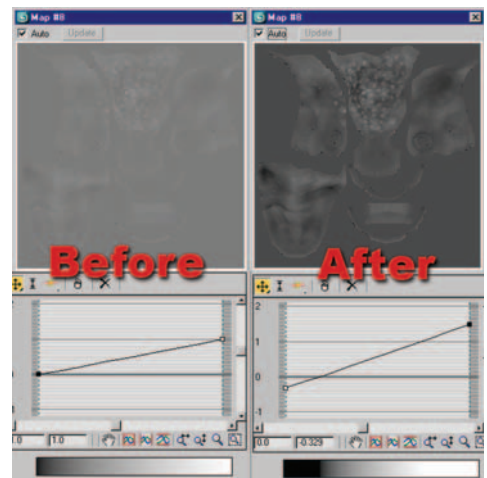

Figure 11.57 Displacement map before and after adjusting the color map.
22. Scroll back down to the Output rollout. The color map graph lets you adjust the tonal range of an image. Adjust the points to create more contrast in the displacement map (examine the preview opened in step 21 as you adjust the color map). Figure 11.57 shows the displacement map before and after adjusting the color map points.